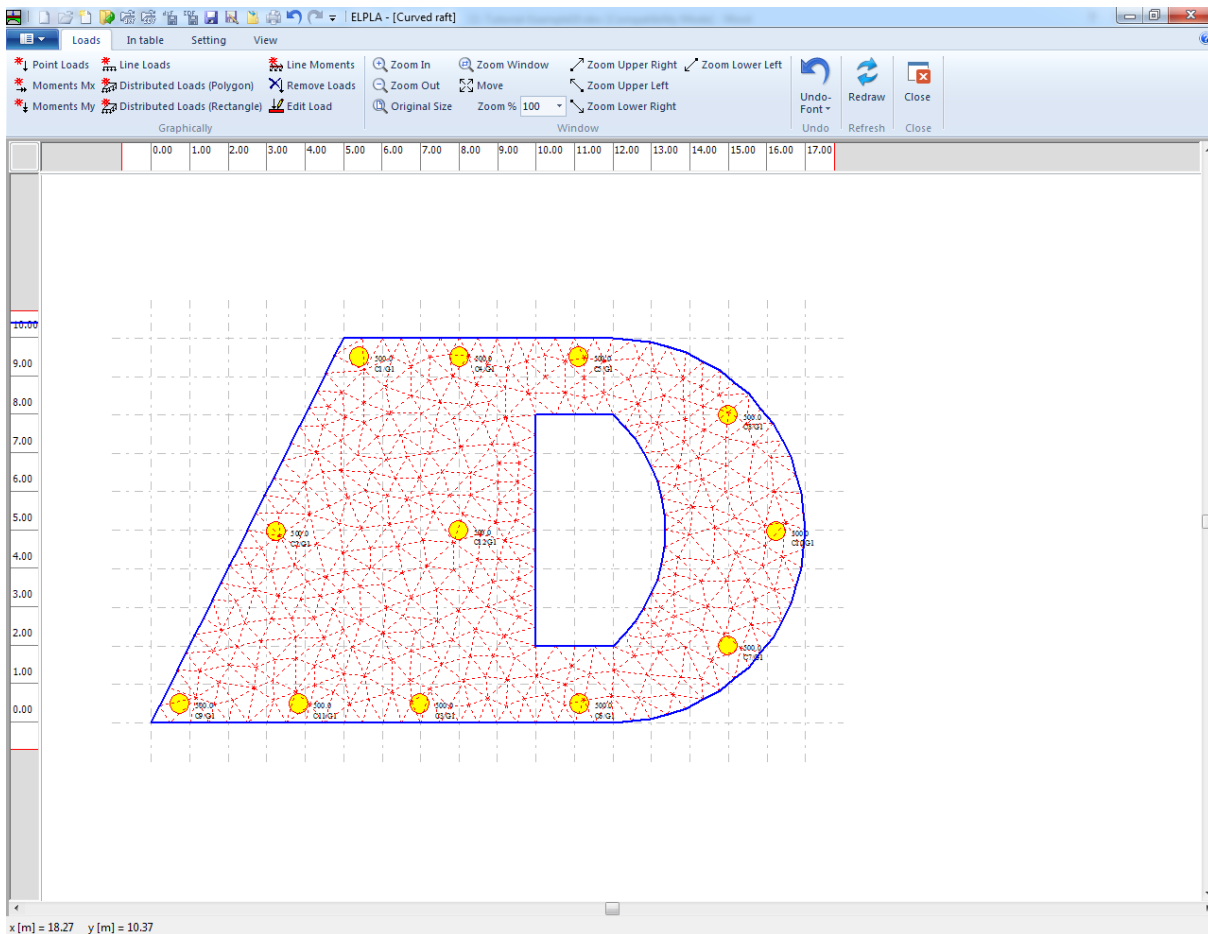

Figure 10.30 Loads
After you have completed the definition of all load data, the screen should look like the following Figure 10.30.
- Choose "Save" command from "File" menu in Figure 10.30 to save the load data
- Choose "Close" command from "File" menu in Figure 10.30 to close the "Loads" Window and return to *ELPLA* main window